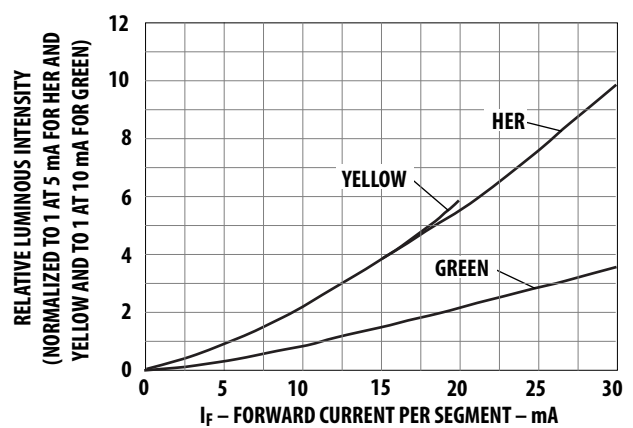

Figure 9. Relative luminous intensity vs. DC forward current.
2. See Figure 9 to establish pulsed conditions.